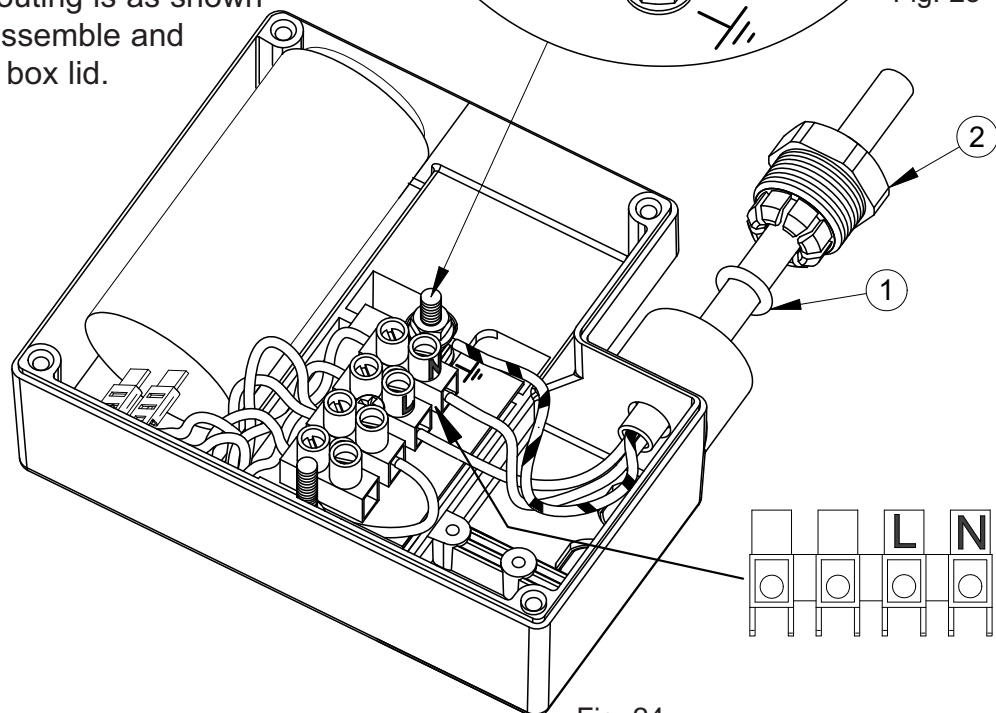

Fig. 24
The cable gland assembly Fig. 24 (items 1 & 2) provides the necessary protection against ingress of solid objects and moisture as well as providing cable retention.
3. Disassemble cable gland as shown in Fig. 24 and insert cable into position ensuring 'O'-ring (item 1) is placed over the cable before the clamping insert (item 2) is tightened.
7. Confirm cable routing is as shown in Fig. 24 and assemble and secure terminal box lid.